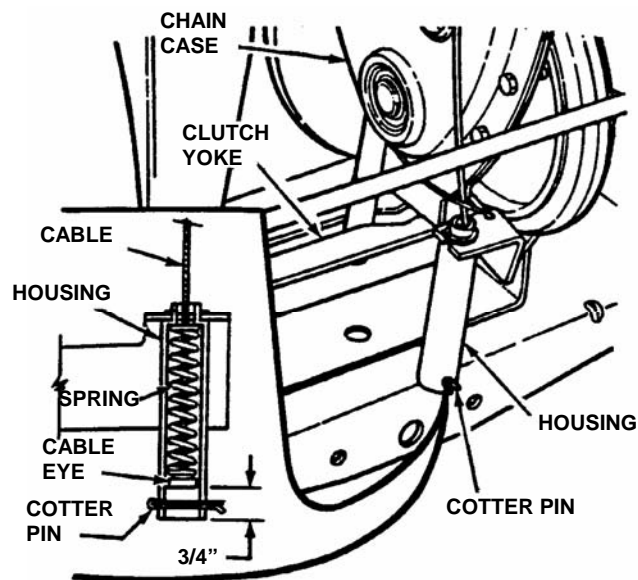

FIGURE 4.9
5. Measure the distance between end of clutch/brake cable and bottom of housing. Measurement should be 3/4". See inset of Figure 4.9.
7. Adjust cable up or down using the jam-nuts to obtain a distance of 3/4" between end of clutch/brake cable (adjustment shown in inset of Figure 4.9) and bottom of housing. See Figure 4.9.
5. Move transmission shift lever to the neutral (N) position.
6. Rotate clutch yoke (clutch yoke shown in Figure 4.9) out with your hand and work belt between drive disc and rubber driven disc.